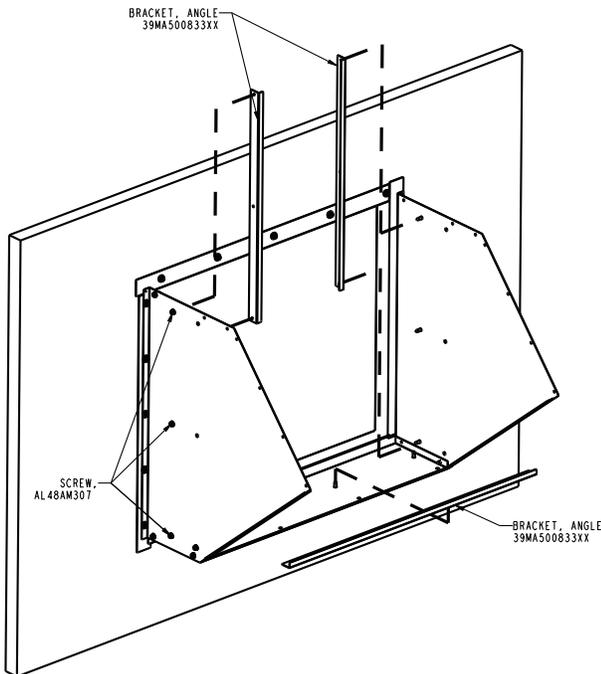

Fig. 81 – Attaching the Angle Brackets
10. Attach inner angle brackets to side and bottom panels using the 1/4 in.-14 x 5/8 in. long sheet metal screws (without neoprene washer.) See Fig. 81.